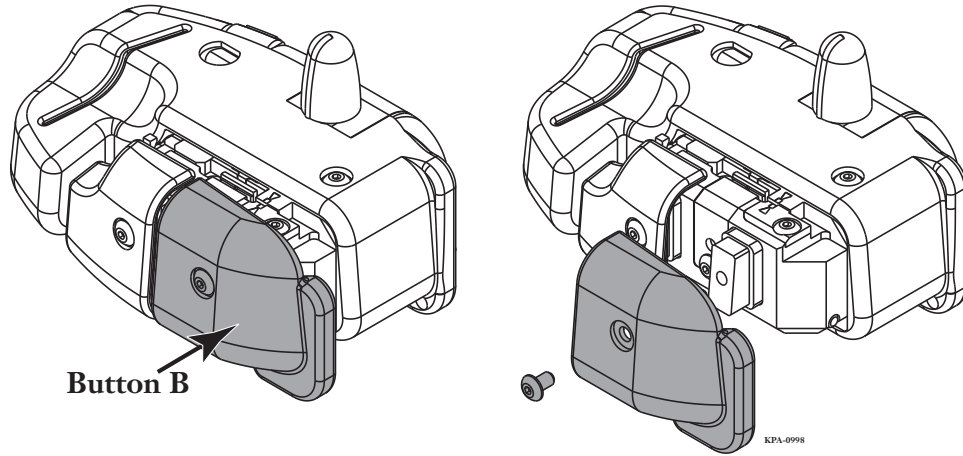

Figure 55 — Remove Button B from Cleaver
Step 1: Remove Button B as shown in Figure 55 using a $\frac{1}{16}$ -inch Allen wrench.
Step 7: Replace Button B (Figure 55).